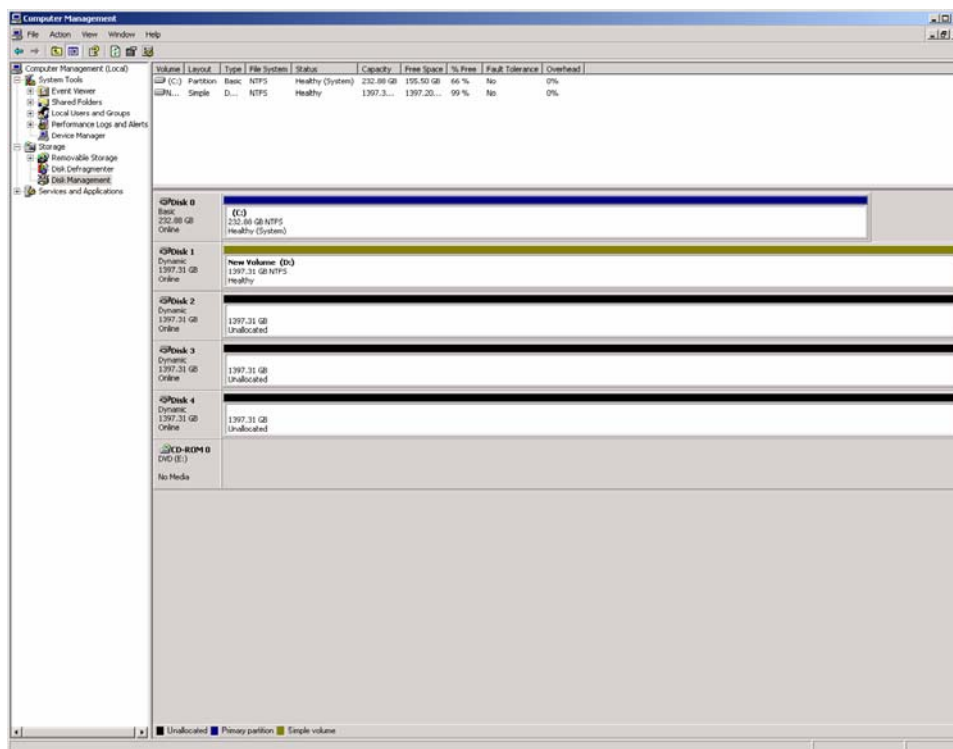

FIGURE 6-20. Computer Management - Disk Management Screen.
7. The *Computer Management - Disk Management* screen appears. It shows Disk 1-Disk 4 (as applicable) as unallocated and each with 1397.31 GB (1.397 TB) of capacity. See Figure 6-20.